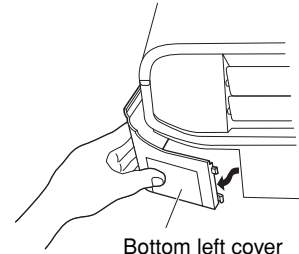

Fig. 39b
- (a) Grasp the corner of the bottom left indoor unit cover, and press down on the bottom while lifting the cover up to remove it. (Fig. 39b)